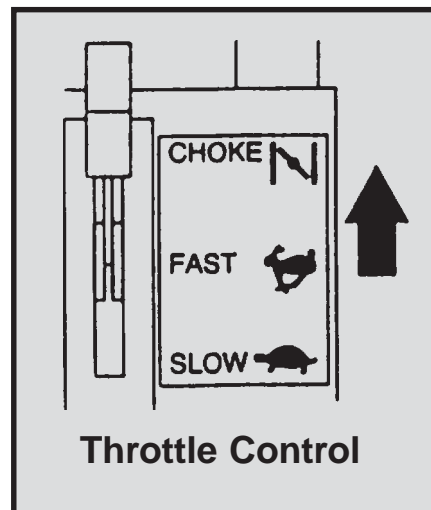

Figure 5
3. Move the throttle control on the handlebar to the choke position. Refer to Figure 5.